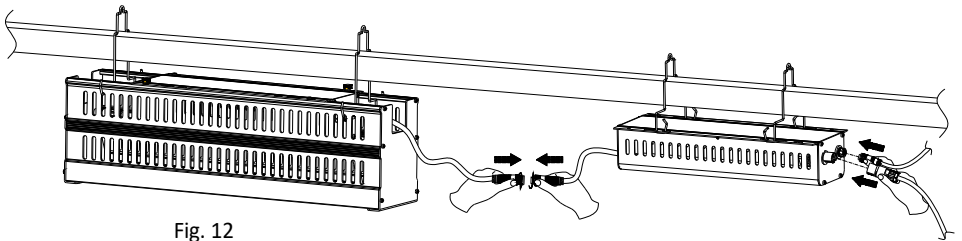
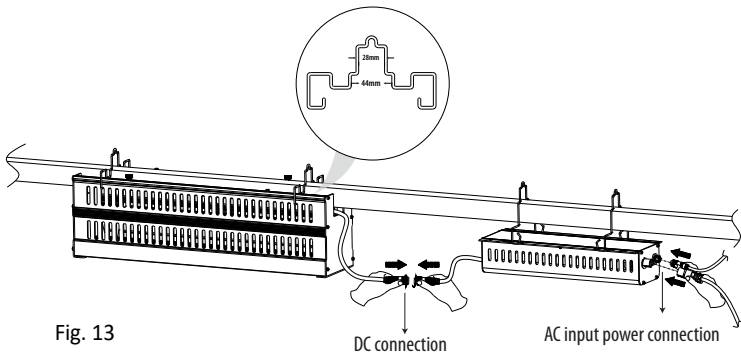

Fig. 12
Fig. 13
Mount with fixture hanger A (Part E) as Fig. 12, or mount with fixture hanger B (Part F) as Fig. 13. Fixture hanger B (Part F) allows truss to run through fixture body in this mounting way.
As Fig. 12, plug in the DC cables of lighting fixture to driver's DC connectors. Spin the orange cap till tight. Make sure each cable plugs into its adjacent connector.
Step 5. Connect the fixture to the power, as Fig. 13.